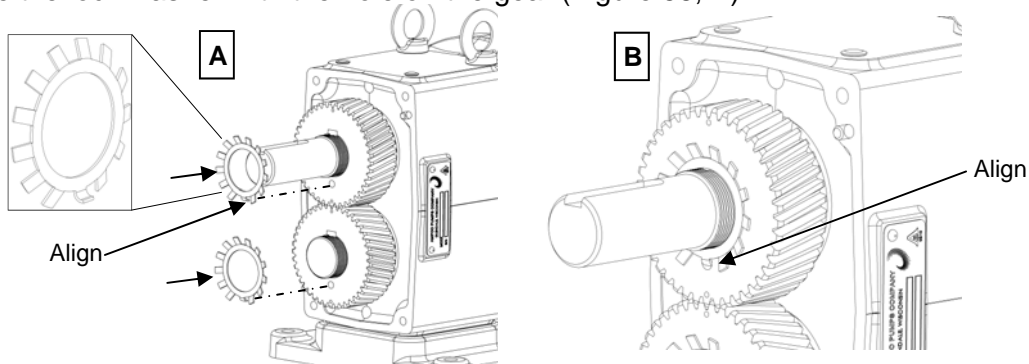

Figure 58: Lock Washer Installation
10) With the gears on the shafts, slide the lock washer on the shaft (Figure 58, A). Align the tab inside the lock washer with the hole on the gear (Figure 58, B).